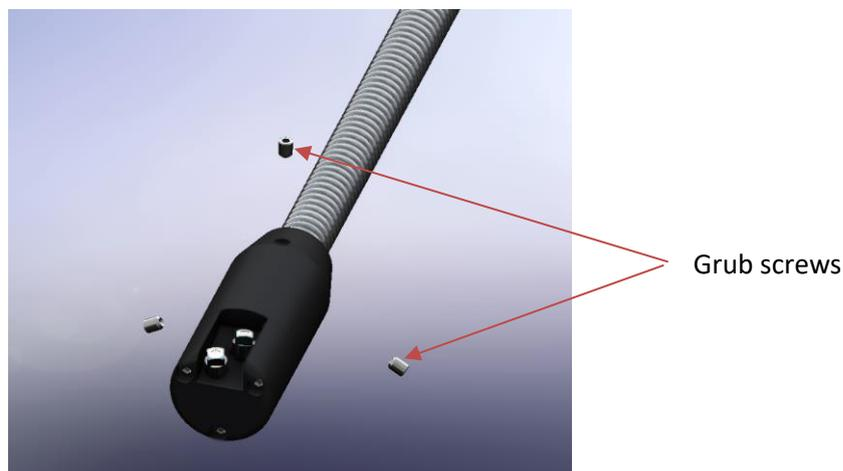

Figure 5
- Remove the Nozzle End Spring Holder by loosening the 3 grub screws. See *Figure 5*.